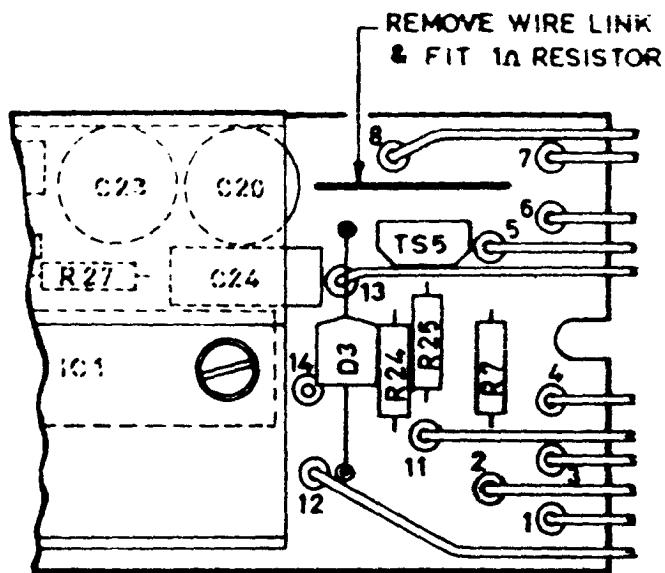

**Figure 3-5 Location of terminal LS10**
- f. Remove riveted terminal LS10 on U11 board (see figure 3-5) and increase hole dimension to 0.120".